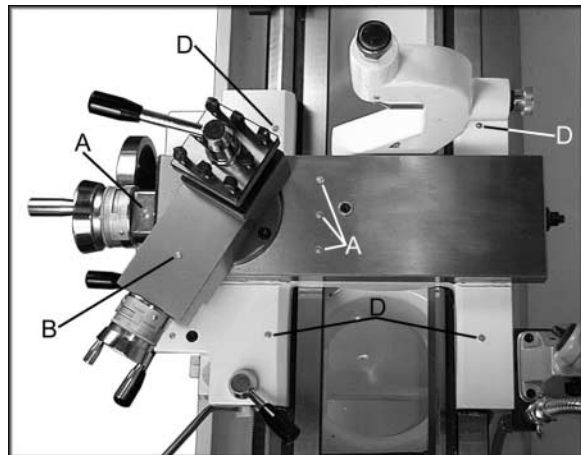

Figure 9
6. **Cross Slide** - lubricate four ball oilers (A, Fig. 9) with Mobil DTE® Oil Heavy Medium once daily.
7. **Compound Rest** - lubricate one ball oiler (B, Fig. 9) with Mobil DTE® Oil Heavy Medium once daily.
8. **Carriage** - lubricate four ball oilers (D, Fig. 9) with Mobil DTE® Oil Heavy Medium once daily.